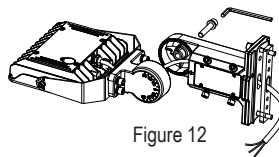

Figure 12
**Step 5:** Mount the two parts of the knuckle together, and, using an Allen key (5/16), lock the two halves together. (Figure 12, 13)